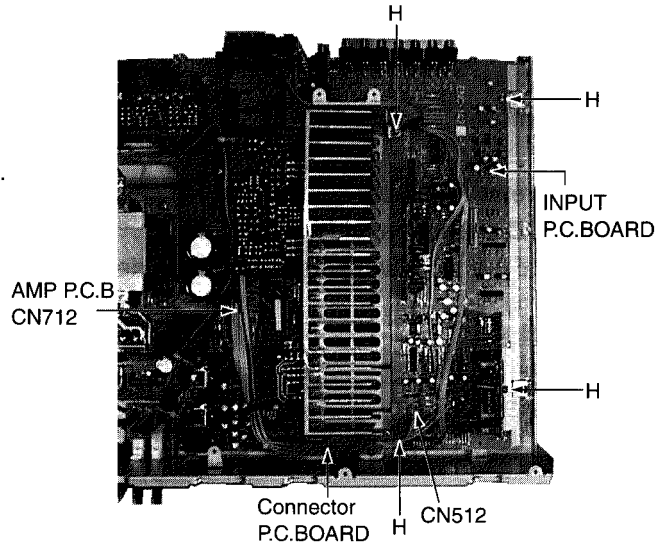

Fig.6
(6) INPUT P.C.BOARD Removal (Fig.6)